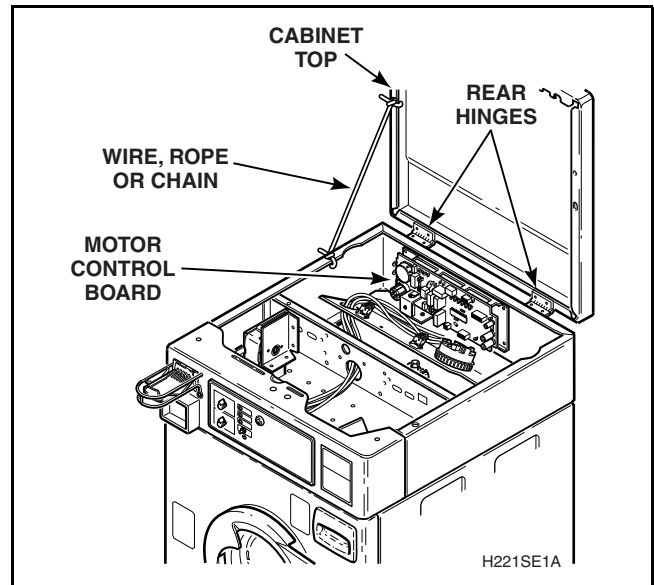

Figure 32
- (5) If area or space permits, lift cabinet top to a vertical position by hinging it on the rear hinges. Refer to *Figure 32*.
**NOTE:** To avoid damage to hinges, be sure to support cabinet top with a small chain or something similar. Refer to *Figure 32*.